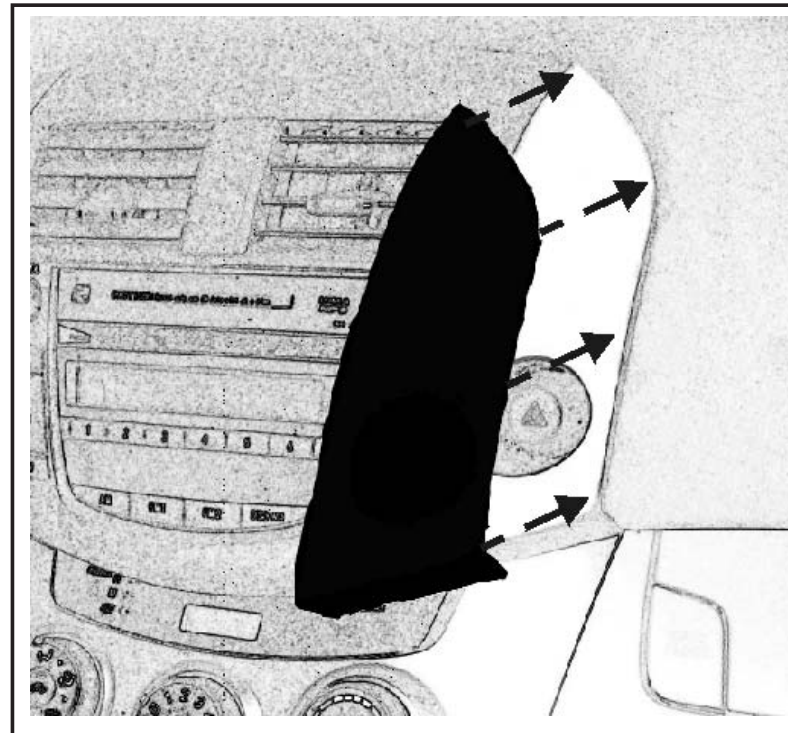

Fig. G1
- ⚠ A. Align part uniformly to edge of factory components. Edge of appliqué should be flush to edge of factory component,  $\pm 1.0\text{mm}$ . (Fig. G1).